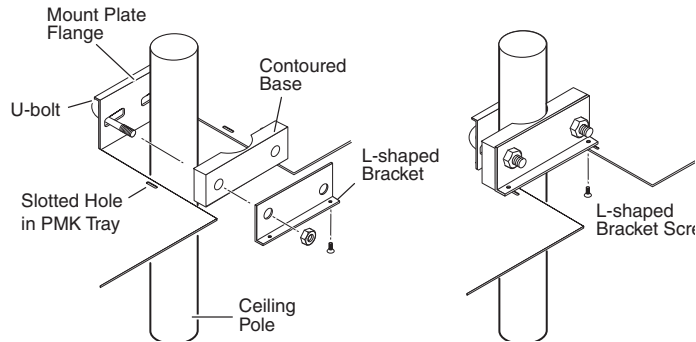

Figure 11 — Projector mounting the PS 123
5. Assemble the U-bolt and the following parts in the following order (figure 11, below):